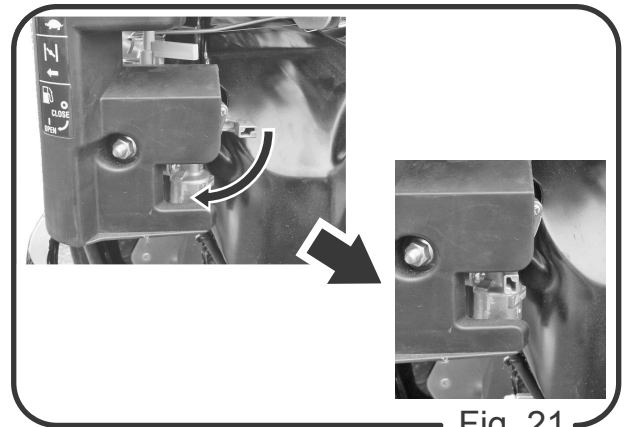

Fig. 21
1. Turn the fuel cock lever downward to let the fuel flow. (Fig. 21)